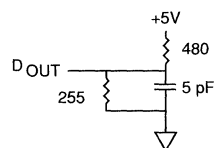

Fig. 2 OUTPUT LOAD EQUIVALENT
6. ^tHZCE, ^tHZOE, and ^tHZWE are specified with CL = 5pF as in Fig. 2. Transition is measured ±500mV from steady state voltage.